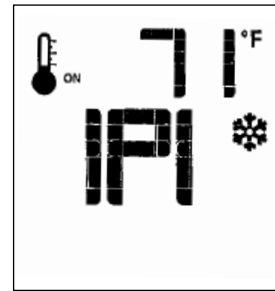
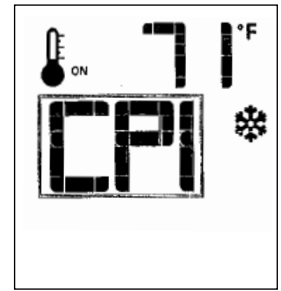

Figure 54. IPI is the default position.
Figure 55. CPI ON.
- With the transmitter in the OFF position, press the transmitter Mode key - IPI is the default mode. Fig. 54. Press the Up arrow to index to the CPI icon and activate the Continuous Pilot Ignition mode. Fig. 55. Pressing the Down Arrow Key will return to Intermittent Pilot Ignition. A single “beep” will confirm reception of the command.